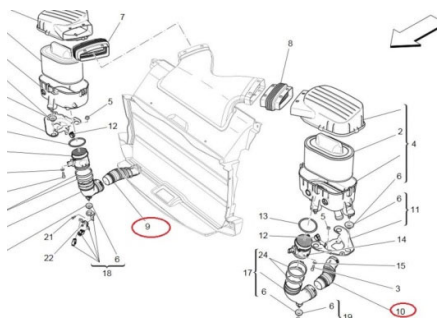

Figure 5 - lower air duct
10) Next, using an endoscope, check the compressor impeller (suction side). To perform this check it is not necessary to remove the turbo. It can be accessed by removing the tube # 9 or 10 (lower air duct) shown in figure 5.